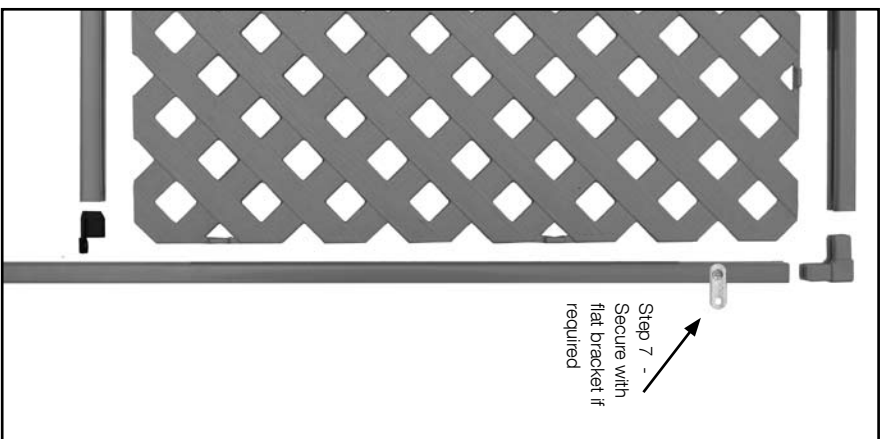

Fig 3
6. If the tops of the fence extensions do not line up due to unevenness of the fence, secure adjoining uprights together 85mm from the top of the fence extension using the supplied flat bracket as shown in Fig. 3, ensuring that the screws do not interfere with the lattice.